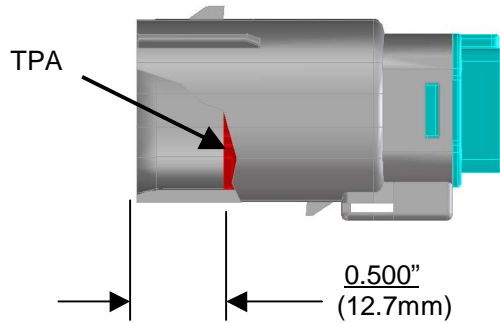

Figure 5: TPA in Pre-Locked Position
1. Begin assembly of the crimped male terminals into the plug housing by making sure the Terminal Position Assurance feature (TPA) is in the pre-locked position (See Figure 5). Since the TPA is recessed in housing, the most accurate way to determine if it is in pre-lock position is to measure. In pre-locked position the dimension between plug housing face and TPA is approximately 0.500”(12,7mm). If it is not in pre-locked position, insert the tips of a needle nose pliers into the two “D” shaped holes in the center of the TPA. Carefully, pull gently on the TPA until it starts moving. Pull to first stop. **CAUTION: DO NOT PULL TPA COMPLETELY OUT OF HOUSING. THIS MAY BREAK RETENTION FEATURES AND RESULT IN REDUCED TPA RETENTION IN HOUSING.** You are now ready to insert terminals or circuit plugs.